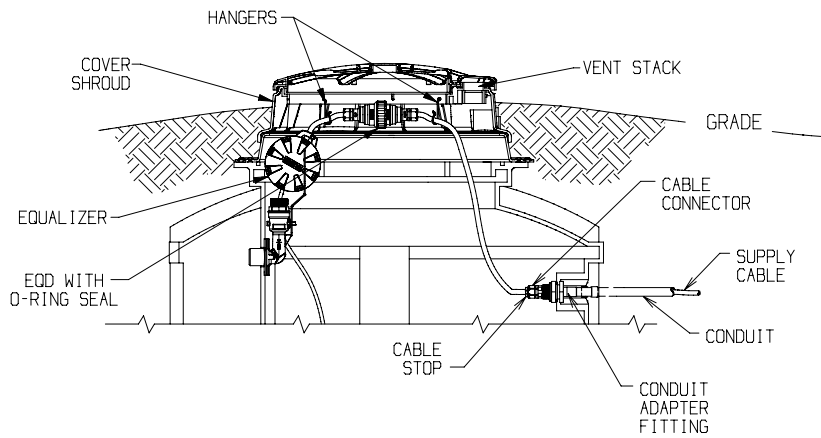

Fig. 7 - Venting & Electrical Connections
10c. Installing E/One Supply Cable (Figure 7)
****IMPORTANT:** All but 900mm of the cable must be pulled out of the station, and the cable adjacent to the EQD should be secured in position using the provided hangers to ensure that the pump functions properly (Figure 7). **Do not leave the excess cable in the station.**
After completing the plumbing, proceed with connecting the pump power cable. The grinder pump power cable is supplied with the mating half of the EQD connector. Verify that the EQD O-rings are in place on the grinder pump power cord (Figure 7). Plug the pump power cable into the supply cable EQD connector. Note that the EQD halves are “keyed” and the plug connections can only be made one way. Secure the EQD connection by tightening the locking ring until it stops. Using the provided hanging hooks, secure the EQD and supply cable at the top of the tank (Figure 7).